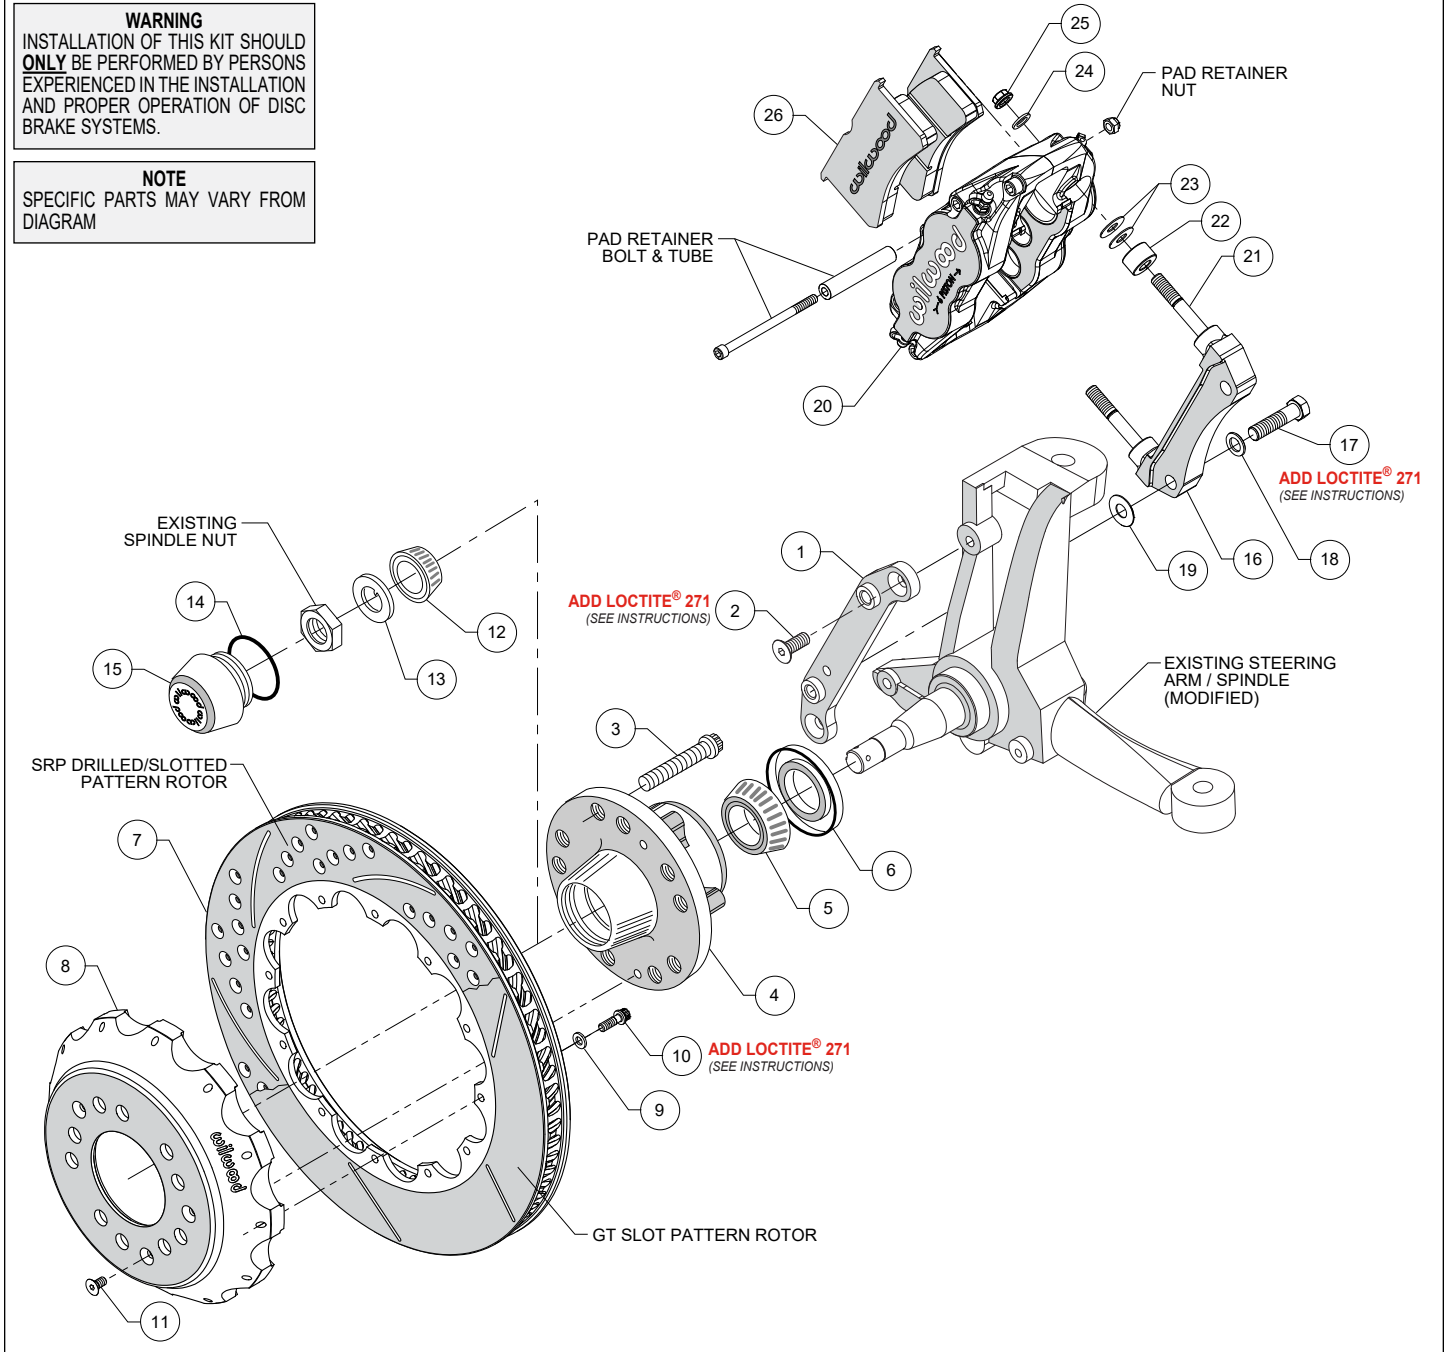
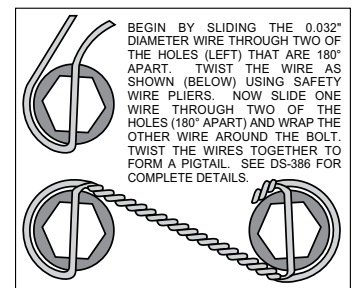

Figure 2. Typical Installation Configuration
Figure 4. Safety Wire Diagram
**NOTE:** Numbers in parenthesis refer to the parts list on the preceding page and Figure 2.
- Orient the caliper mounting flat bracket (1) as shown in Figure 2 and install using bolts (2). **NOTE:** Be sure the heads of the flat mount bracket clinch nuts (1) are facing outward toward the wheel. Temporarily tighten the mounting bolts. **NOTE:** The bracket must fit squarely against the mount bosses on the upright. Inspect for interference from casting irregularities, machining ridges, burrs, etc. After the bracket fitment has been checked, remove the bracket mounting bolts (2) one at a time, apply red *Loctite*® 271 to the threads and torque to 30 ft-lb.
- Install five new wheel studs (3) into the hub (4). Torque to 77 ft-lb. **NOTE:** There are two five lug patterns in the hub (5 x 4.50 and 5 x 4.75). Make sure of the correct hole pattern for the correct wheel application before installing studs into hub.
- Pack the large inner bearing cone (5) with high temperature disc brake bearing grease (available from your local auto parts store) and install into the backside of the hub (4).
- Install the grease seal (6) by pressing into the backside of the hub (4).
- Pack the small outer bearing cone (12) with high temperature disc brake bearing grease and install into front side of the hub (4). Slide the hub assembly (4, 5, 6 and 12) onto the spindle. Secure using spindle washer (13), stock adjusting nut, and nut locking device. Adjust wheel bearing pre-load per Original Equipment Manufacturer (OEM) specifications.
- Install the o-ring (14) and the dust cap (15) into the hub (4). **NOTE:** O-ring (14) friction will not allow cap (15) to unscrew on its own.
- With the larger I.D. side of the rotor (7) facing away from the hat (8), bolt rotor (7) to hat (8) through the backside of the rotor using washers (9) and bolts (10). Apply red *Loctite*® 271 to the bolt threads and torque to 155 **in-lb** using a criss-cross pattern. For an added measure of security, the bolts may be safety wired using standard 0.032 inch diameter stainless steel safety wire as shown in Figure 4. Please refer to Wilwood's data sheet DS-386 (available at [www.wilwood.com/Pdf/DataSheets/ds386.pdf](http://www.wilwood.com/Pdf/DataSheets/ds386.pdf)) for complete safety wire installation instructions.
- Slide the rotor/hat assembly over the studs (3) in the hub (4) taking care to align the small countersunk holes in the hat (8) with the small threaded holes in the hub (4). Install three flat head socket head screws (11) through the small holes in the hat (8) and torque to 85 **in-lb**. Check to be sure the hat seats squarely against the hub face.
- NOTE:** Please reference the caution statement at the beginning of the assembly instructions. The radial mount caliper bracket (16) should initially be installed with clean, dry threads on the mounting bolts (17). Orient the bracket, as shown in Figure 2 and install using bolts (17) and washers (18). Initially place one .030" thick shim (19) on each bolt between the radial mount caliper bracket (16) and caliper mounting flat bracket (1), Figure 2. Temporarily tighten the mounting bolts. Later, after the caliper alignment has been checked, the mount bolts will be secured using red *Loctite*® 271.
- NOTE:** This kit contains distinct right and left hand calipers that must be mounted in a specific direction, as described below. Initially place spacer (22) and two .035" thick shims (23) on each stud (21) as shown in Figure 2. Mount the caliper (20) onto the radial mount caliper bracket (16) using lock nuts (25) and washers (24), Figure 2. Ensure that the caliper is mounted so the largest pistons are at the rotor exit end of the caliper, in relation to the forward direction of rotor rotation. Temporarily tighten the lock nuts and view the rotor through the top opening of the caliper. The rotor should be centered in the caliper. If not, adjust by adding or subtracting .030" shims (19) as necessary between the radial mount caliper bracket (16) and the caliper mounting flat bracket (1). Always use the same amount of shims on each of the two mounting bolts (17). Once the caliper alignment is correct, remove the radial mount caliper bracket bolts (17) one at a time, apply red *Loctite*® 271 to the threads, and torque to 47 ft-lb.
- Remove the caliper pad retainer bolt, locknut, and tube from the caliper. Slide the brake pads (26) into place. They should install easily without interference. Check that the outside radius of the brake pad is flush with the outside diameter of the rotor face. Add or subtract shims (23) between the caliper and mount bracket to gain the proper alignment. Reinstall the caliper and torque the caliper nuts (25) to 28 ft-lb. Reinstall the pad retainer tube, bolt, and locknut. The locknut should be snug without play in the bolt or tube. Be cautious not to over tighten.